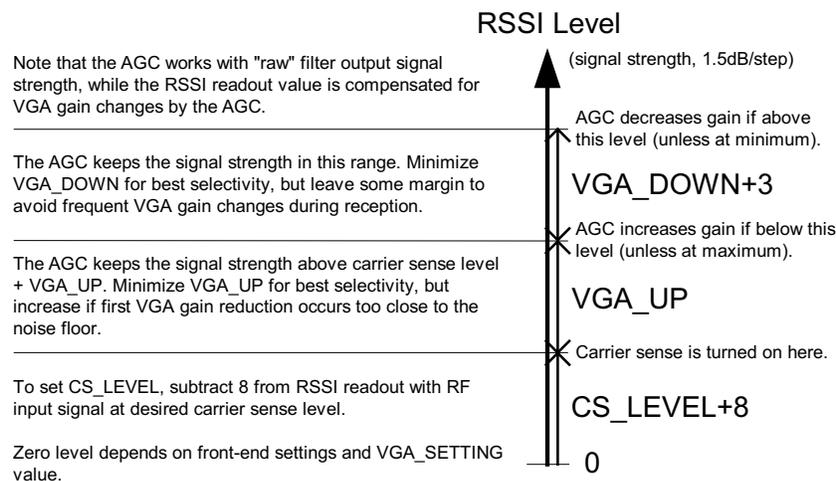

Figure 5-15. Relationship Between RSSI, Carrier Sense Level, and AGC Settings `CS_LEVEL`, `VGA_UP` and `VGA_DOWN`
A digital RSSI is used to measure the signal strength after the ADC. The `CS_LEVEL[4:0]` in the `VGA4` register is used to set the nominal operating point of the gain control (and also the carrier sense level). Further explanation can be found in Figure 5-15.
5. If desired, adjust the `VGA_UP` and `VGA_DOWN` settings according to the explanation in Figure 5-15.
CS_LEVEL[4:0] sets the threshold for this specific VGA_SETTING[4:0] value. If the VGA_SETTING[4:0] is changed, the CS_LEVEL[4:0] must be changed accordingly to maintain the same absolute carrier sense threshold. See Figure 5-15 for an explanation of the relationship between RSSI, AGC and carrier sense settings.